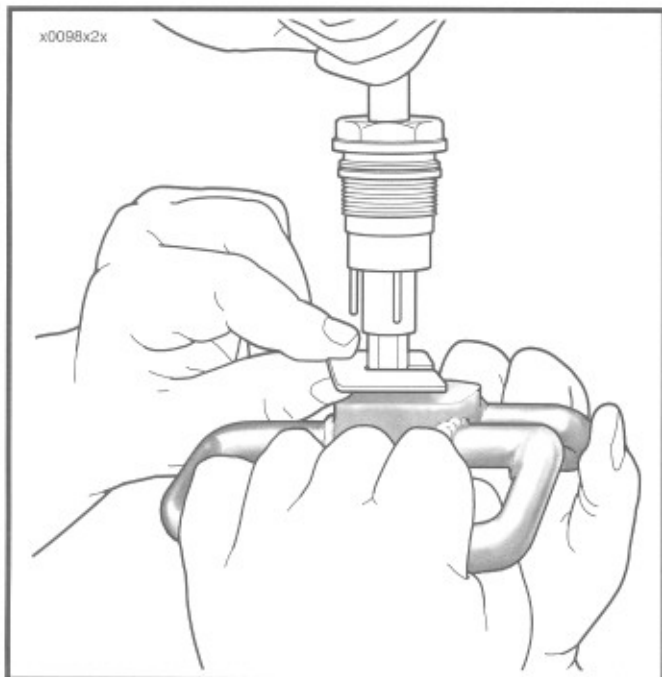

Figure 2-63.
3. Unthread the fork cap (5) from the fork tube and allow the fork leg to drop, exposing the spring.
4. See Figure 2-63. Set the Fork Spring Compression tool (HD-41549A) on the spring collar. Turn screws in to engage holes in collar. Compress the spring until the Spring Plate tool (HD-41551) can be positioned between the spacer and the spring collar.